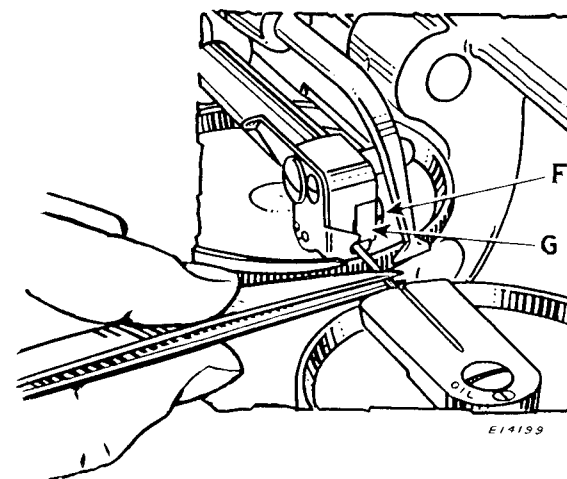

Fig. 7. Inserting the Needle
Holding the needle in tweezers with its short groove up, place it into the needle groove in the needle bar, under the clamp (G, Fig. 7) and push it back as far as it will go, then tighten the clamp screw (F).